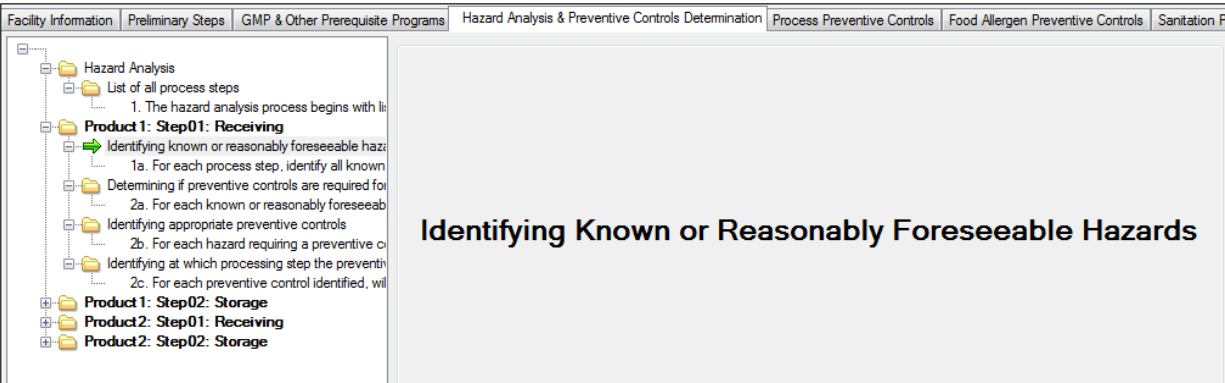

Figure 41: Post Add Action
Step 2: For each hazard category, select the hazard category from the dropdown menu and enter the corresponding hazard name in the "Name" text field (Figure 41).